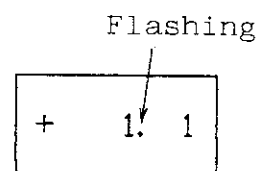

Fig. 19
1. Press the SCAN switch (the LED lights). The display is shown in Fig. 19. The start address (right side) and end address (left side) are both at the initial value of 1.